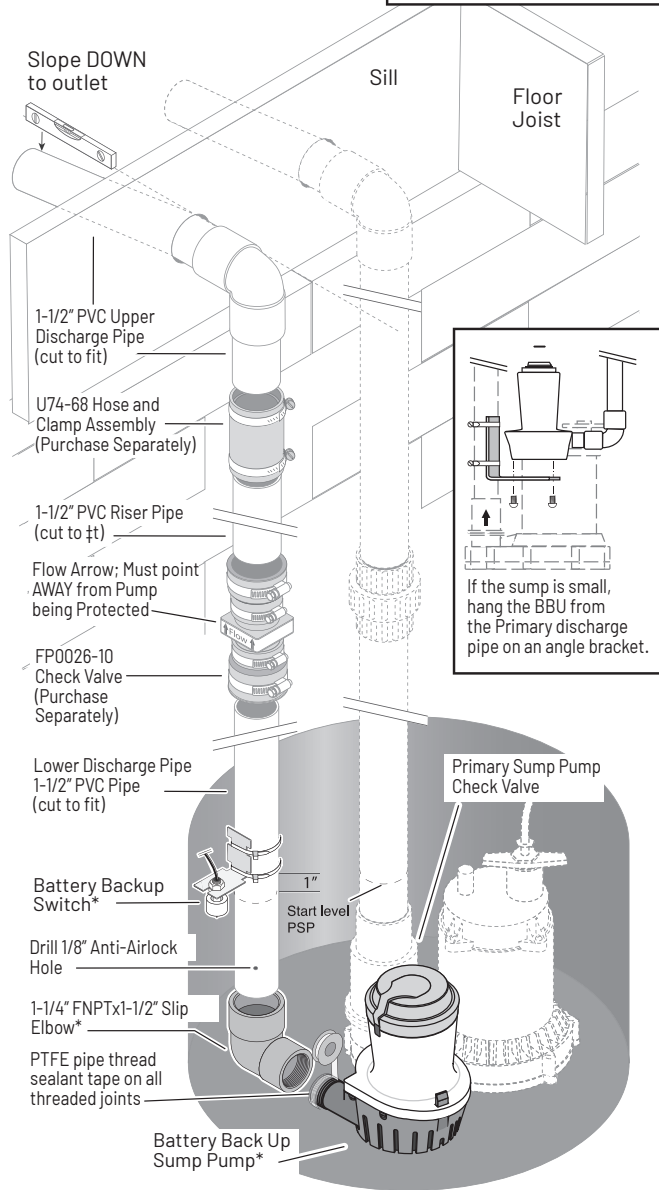

FIGURE 2: SEPARATE DISCHARGE - TYPICAL INSTALLATION
- ◆ Study pages 5-8 to determine which installation method will be best for you. The "Separate Discharge" (Figure 2), installation is recommended.
Mount the backup pump on the angle bracket (Figure 2).
The recommended Easy Install method suggests installing both of the pumps on the floor of the sump pit. See Figure 2. The minimum required sump basin diameter at the bottom of the pit and the recommended depth of the sump basin is 18".